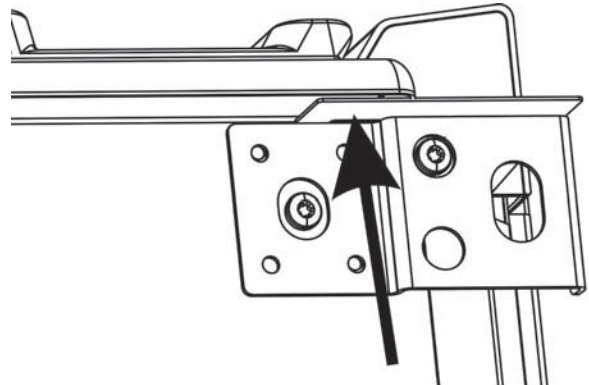

Figure 6: Tighten screw
8. Press up on the corner cover at the arrow (see Figure 6: Tighten screw) while finishing the tightening of the screw.